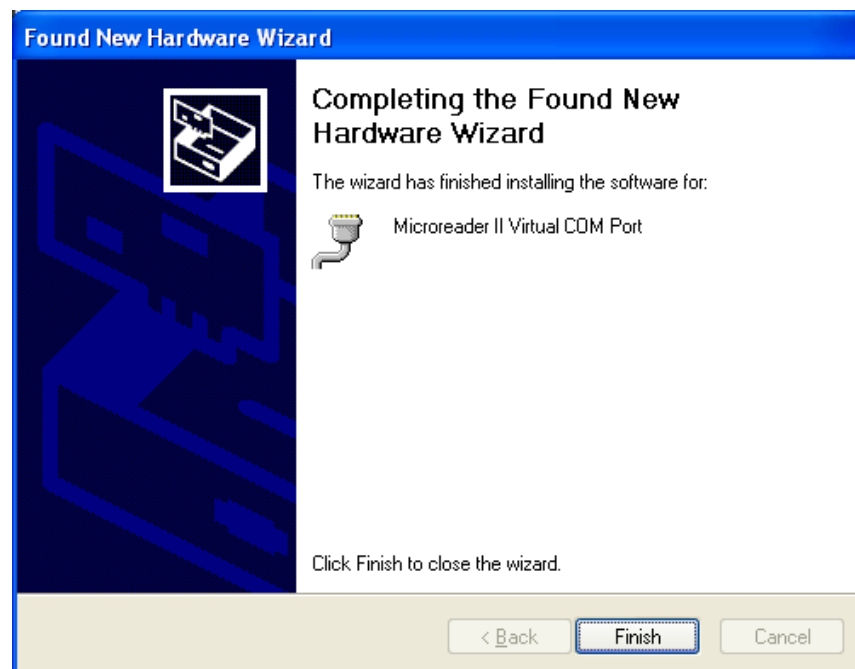

Figure 8. New Hardware Wizard, Step 4
4. If Windows prompts for authentication, continue with the installation. After successful installation, the window shown in Figure 8 is displayed. Click Finish.